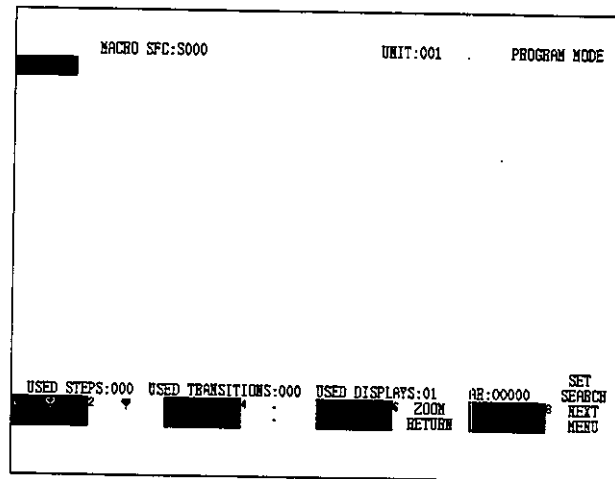

Figure 7.28
- 1) Display the SFC Screen shown in *Figure 7.28*.